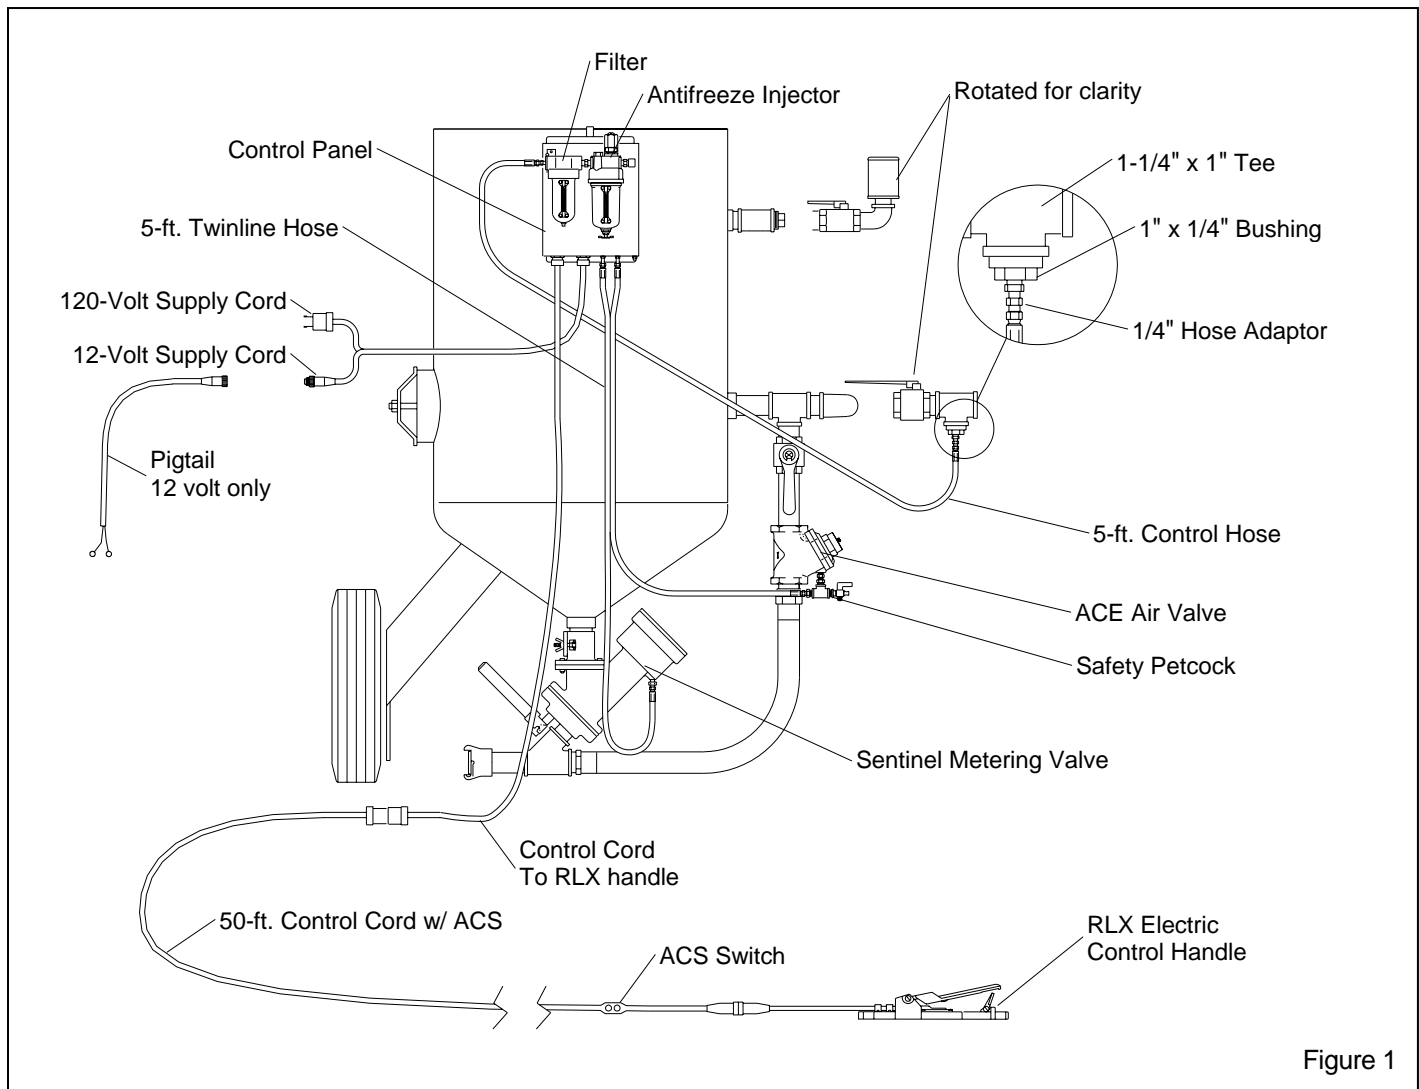

Figure 1
1.3.1 The components of the Sentinel Electric remote control system are shown in Figure 1. They include the Sentinel abrasive metering valve, ACE air valve, RLX electric control handle, electric panel assembly, 50-foot control cord with abrasive cut-off switch (ACS), all interconnecting control hoses, and all necessary fittings.
**1.4.2** Sentinel electric remote controls (electric over pneumatic) operate pneumatically (See Figure 1). When the machine is manually pressurized, control air travels through the filter and antifreeze injector, and into the control panel. If the electric control handle lever (which is the main activator of the system) is in the up (no blast) position, air stops at the control panel and the media and air valves remain closed. Pressing the electric control handle lever allows air to pass through the panel to open the media and air valves, which starts the blasting process. When the control handle is released, control air exhausts at the panel, the valves close and blasting stops.
**2.2.8** Connect the manual inlet valve and a second tee (tee #2) to the blast machine as shown. NOTE: The second tee and all fittings necessary to complete the assembly shown in the detail circle in Figure 1 are included with the remote system.
**2.2.9** Refer to the detail circle in Figure 1, and install the bushings and 1/4" hose adaptor.
**2.2.10** Assemble a manual outlet valve assembly, and install it as shown. NOTE: Clemco supplies an exhaust muffler with all blast machines 1.5 cubic feet and larger. The muffler reduces exhaust noise and directs the exhaust downward, which prevents abrasive from exhausting into the air. When the blast machine is depressurized, the muffler body will pop up and diffuse the escaping air and abrasive. When the machine is fully depressurized, the muffler body will drop, permitting trapped abrasive to empty. For the muffler to work properly, it must be installed with the body facing up, as shown in Figure 1.
### **2.3 Blast Hose and Control Hose Connections** Refer to Figure 1.